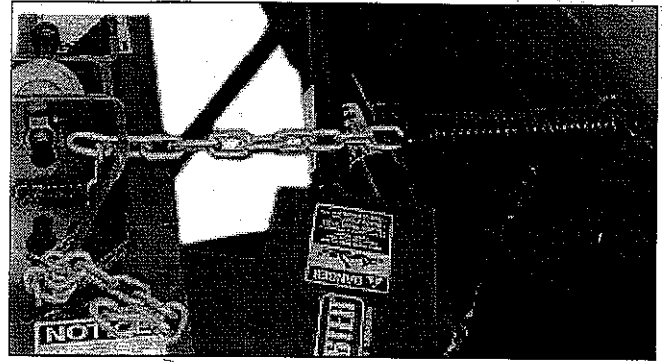

figure 7
11. Install the spring-chain assembly. Figure 7 shows the spring-chain assembly fully installed.